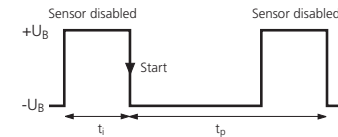

Fig.3: External synchronization signal
- Apply a square-wave signal to the sync-input with pulse width ti and repetition rate tp (Fig.3 and technical data).